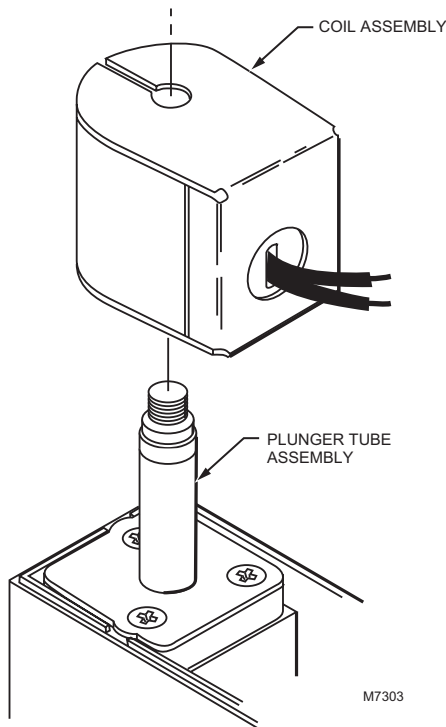

Fig. 14. Coil assembly fits on plunger tube assembly.
- Lift the coil assembly straight up and off the plunger tube assembly (Fig. 14).
- Slip the new coil assembly over the plunger tube assembly (Fig. 14).